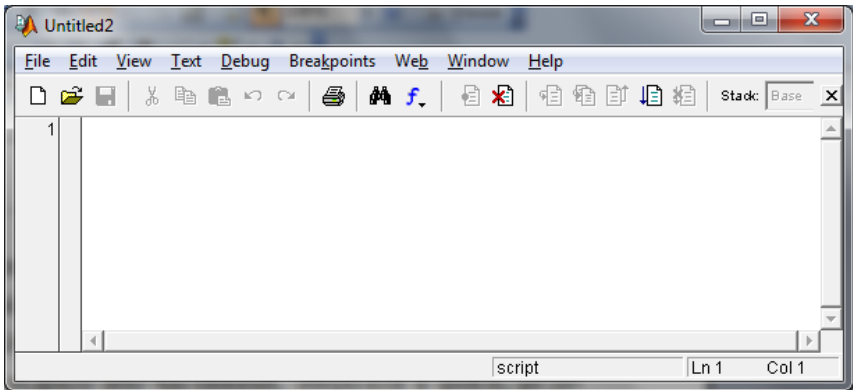

Figure 3.2 – M-file Editor Window
3. To write a new script in MATLAB you need to open M-file Editor window. For this, select **File → New → M-file** command from the menu or click **New M-file**  button on the MATLAB toolbox. It opens a new Untitled window, as shown in Figure 3.2.